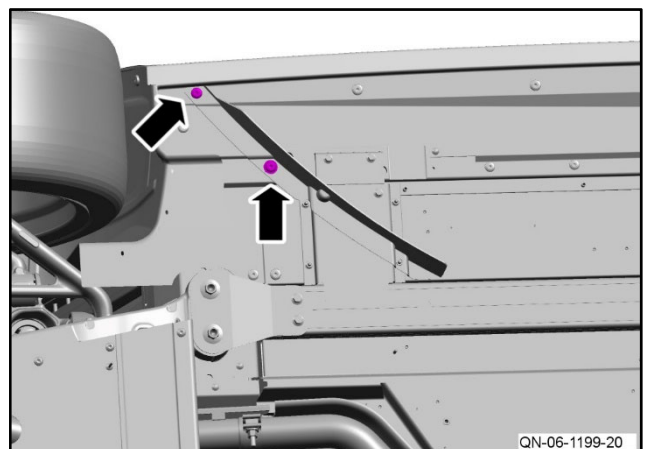

Figure 29
- 28 Remove the two screws that attaches the right side aero fence to the vehicle body (refer to Figure 29).